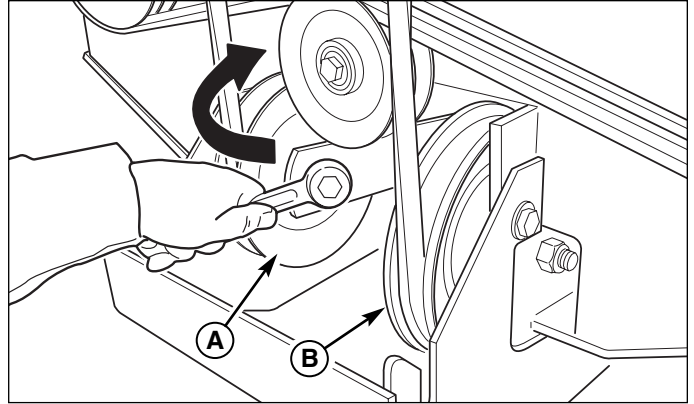

Figure 19. PTO Drive Belt
4. If the belt is not routed properly, using a 3/4" box end wrench on the nut of the spring-loaded idler pulley (A, Figure 19), rotate the wrench **CLOCKWISE** to release the tension on the PTO drive belt.